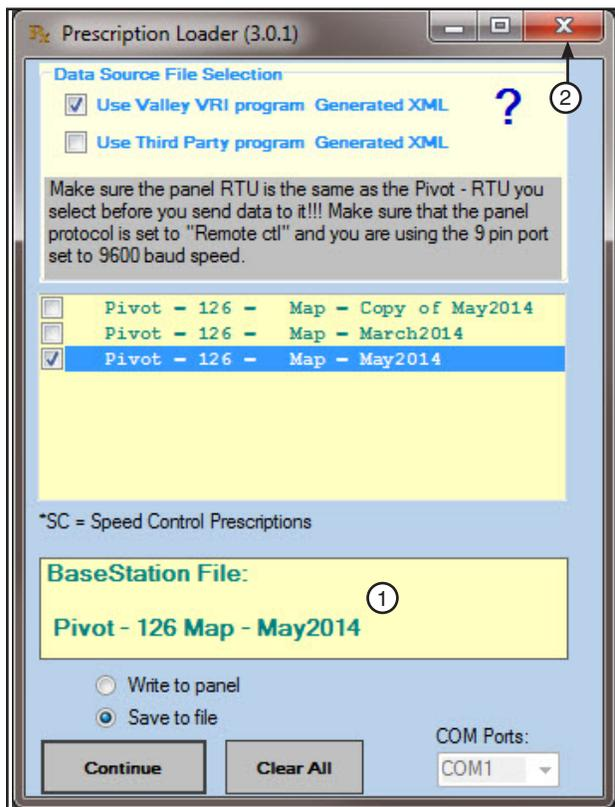

Figure 40-2 1. File Stored Indicator
11. Click the **Close** button on the Prescription Loader screen to exit the Prescription Loader application. (Refer to Figure 40-2.)